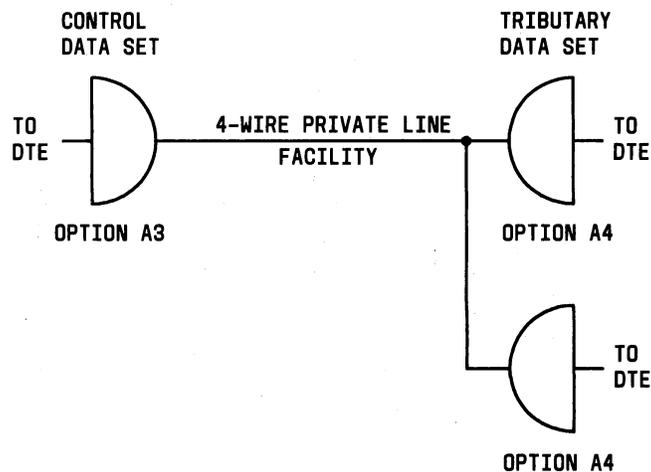

Fig. 29—Example of Category A Multipoint Service Option
**3.124 Multipoint Control (A3):** Similar to option A1 above. This data set will have one or more tributary data sets and will be enabled to acquire a poll list. Refer to Fig. 29 and 30.
**3.125 Multipoint Tributary or Extended Multipoint Tributary (A4):** Similar to option A2 above. Refer to Fig. 29 and 30.